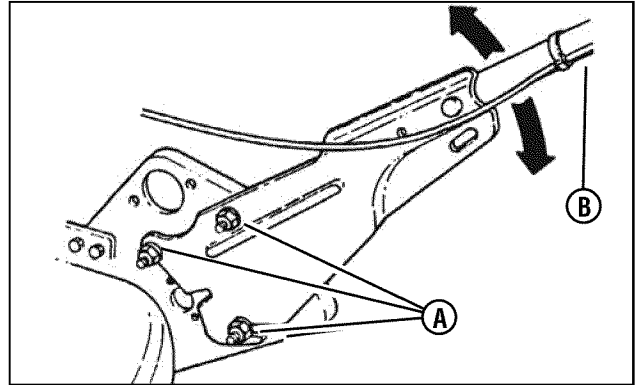

Figure 7: Adjusting the handle height
1. Loosen the lower nuts (**A**, **Figure 7**) on each lower handle.